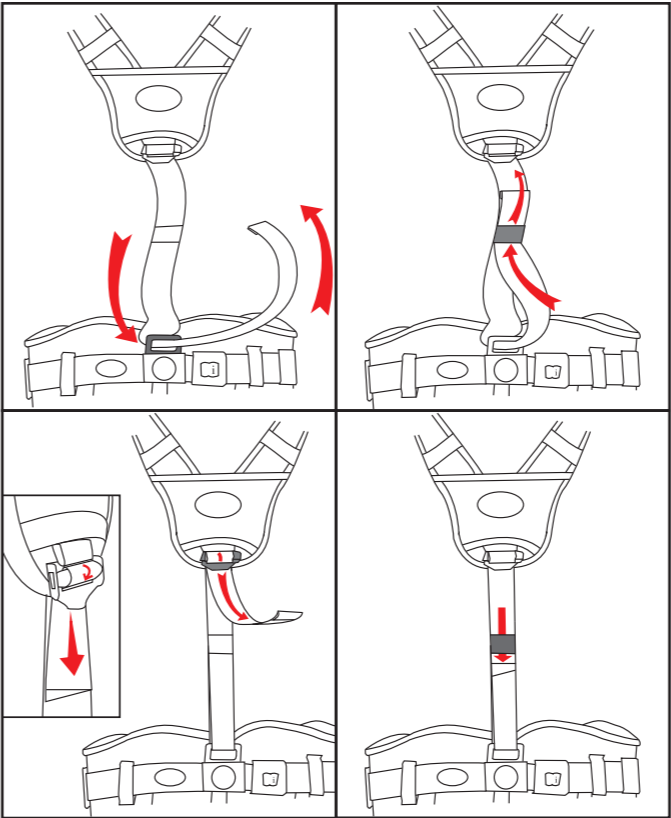

Fig. 1
2. Place around waist and hold in position on waist using your inner arms/elbows. Bend forward and pull belay loop and dee ring up through your legs using your right hand still holding waist in position. Fig. 1 & 2.